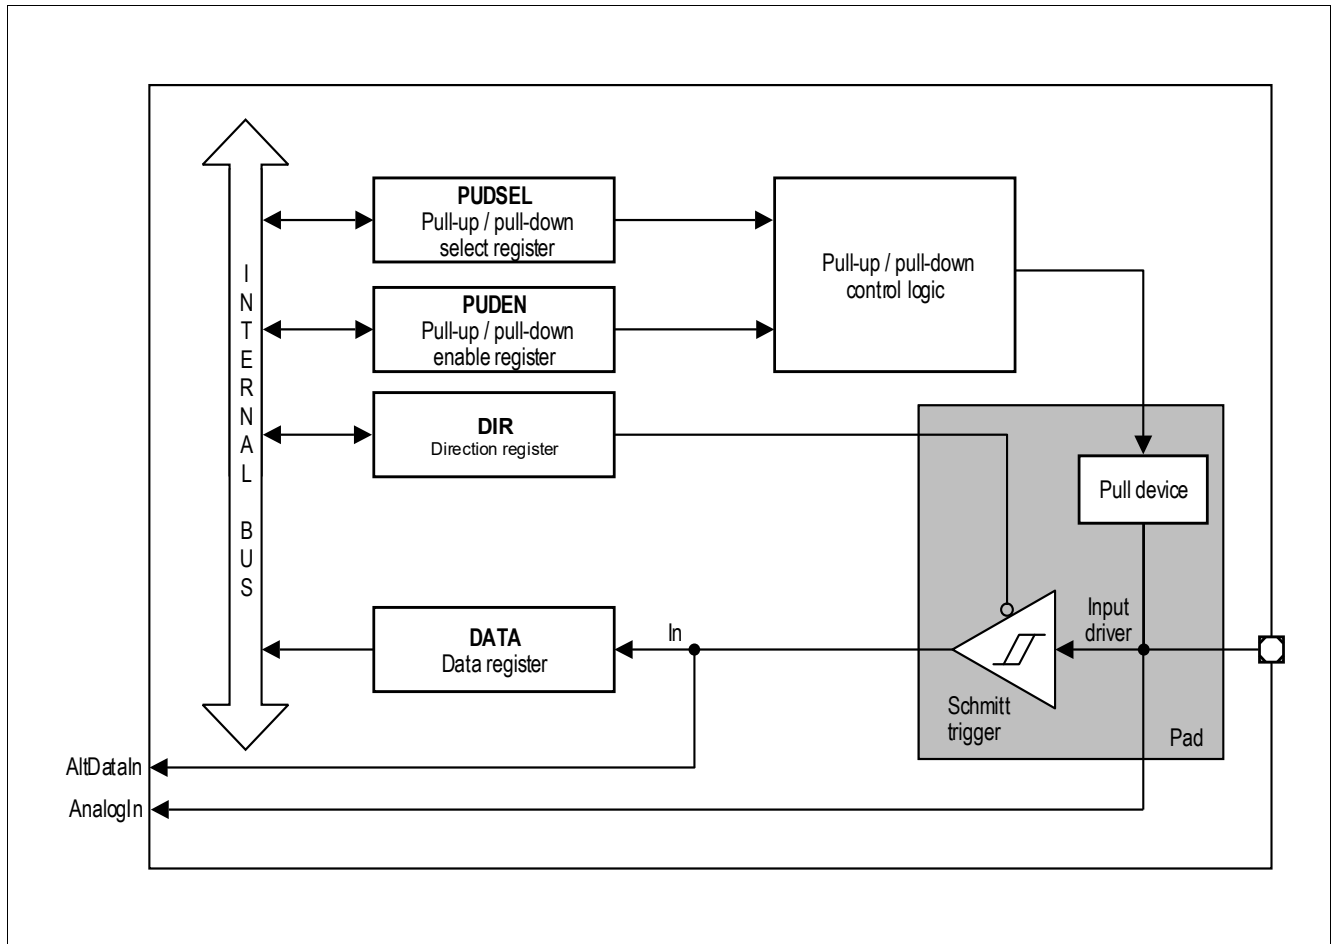

**Figure 16** General structure of a bidirectional port (P0, P1)
**Figure 16** shows the block diagram of a TLE9867QXA40 bidirectional port pin. Each port pin is equipped with a number of control and data bits, thus enabling very flexible usage of the pin. By defining the contents of the control register, each individual pin can be configured as an input or an output. The user can also configure each pin as an open-drain pin with or without an internal pull-up/pull-down.